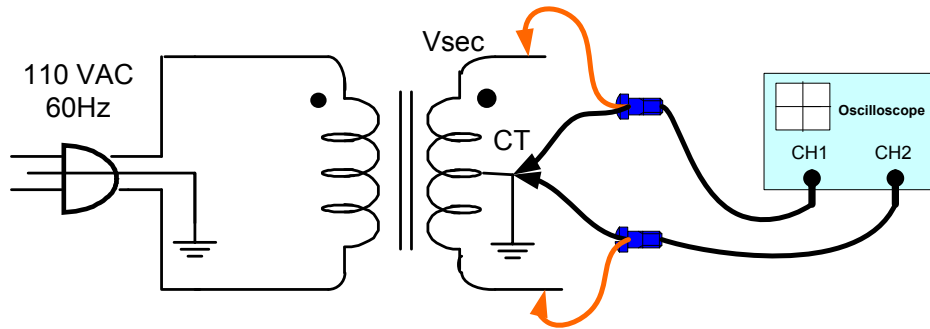

Figure 2
1. Connect the full-wave rectifier shown in Figure 2. Observe the voltage across the secondary. Why is it necessary to use two channels to view the entire secondary voltage?